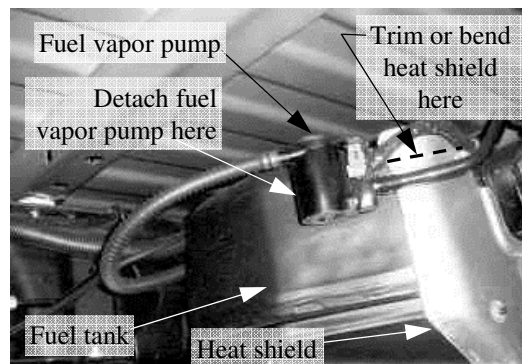

Figure 3
4. Cut the heat shield on the gas tank or bend the top edge about 1" down to make room for the hitch. See Figure 3. On newer models with gasoline engines, temporarily detach the fuel vapor pump from the back of the gas tank.